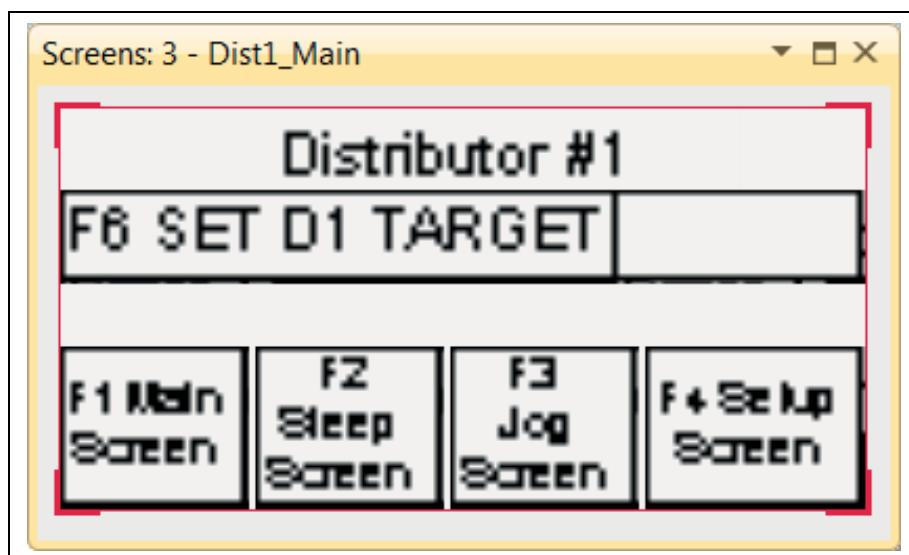

Figure 5C
3. Press **F1**. The following screen will appear as in Figure 5C. By pressing the **F3** key, the user will be taken to the jog screen. Use this option to jog the spout manually, home the distributor and troubleshoot the system. This option will be discussed later. By pressing the **F4** key, the user will be taken to the setup screen. Use this option to setup the distributor control for the angle of sweep and the number of spouts in preparation of performing the distributor homing operation.